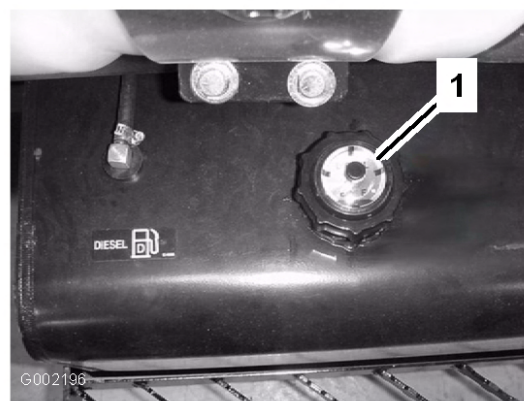

Figure 18
3. Clean the area around the fuel tank cap (Figure 18).